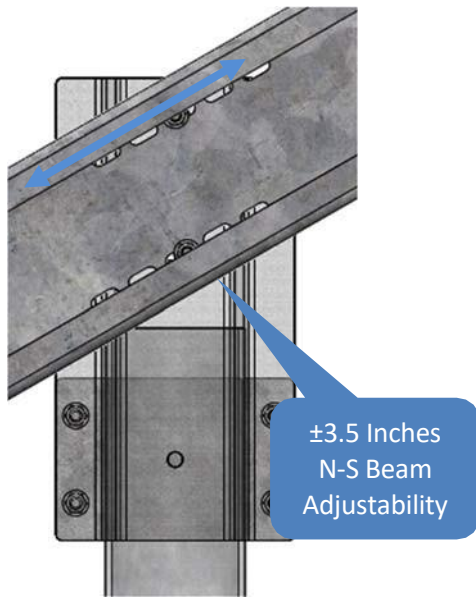

Fig. 8-2
- North – South Beam: ± 3.5 inches (89 mm) (Fig. 8-2)